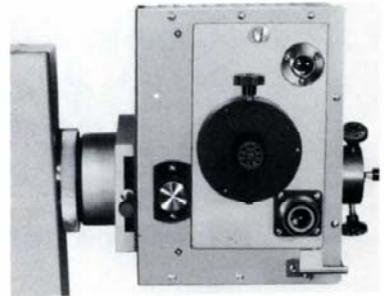

Fig. 1
1. Attach the lamp housing. (Fig. 1)